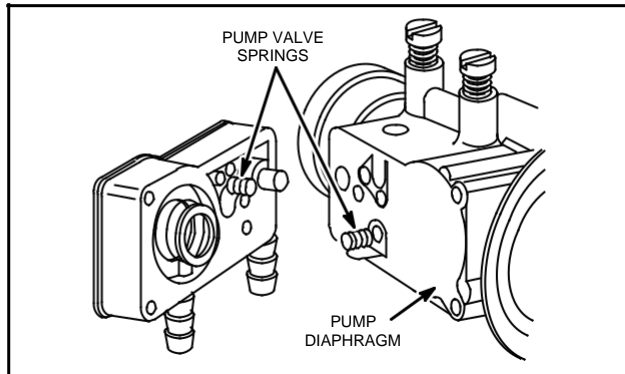

Fig. 290 - PUMP SPRING LOCATION
3. Install one (1) flapper valve spring on spring boss, Fig. 290, and then place diaphragm on carburetor.
4. Place a pump valve spring on spring boss in pump body, Fig. 290, and place pump body on carburetor.